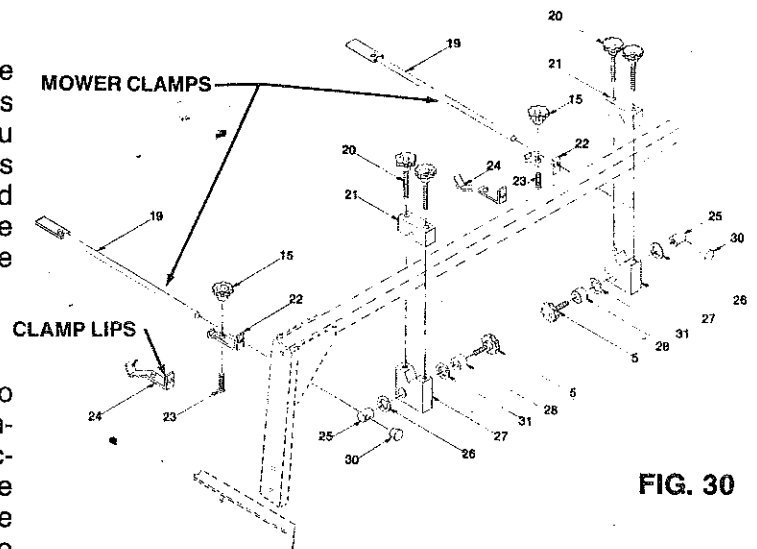

FIG. 30
The overhead mower clamp assembly consists of two (2), two piece rectangular bar clamps, which also contains an adjustable holding fixture into which is placed the mower clamps. These clamps will always be positioned on the overhead square bar as shown in the adjacent exploded view. They are designed to lock into place and not move during the grinding procedure. Included are two sizes of clamp lips; normally the smaller size will be used. (FIG. 30)